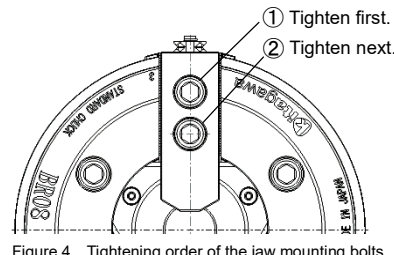

Figure 4 Tightening order of the jaw mounting bolts
- To maintain the mounting repeatability of the BR-AJC**M stably for a long period of time, tighten the jaw mounting bolts to the specified torque always from the one on the chuck outside diameter side. (See Figure 4 and Table 2.)